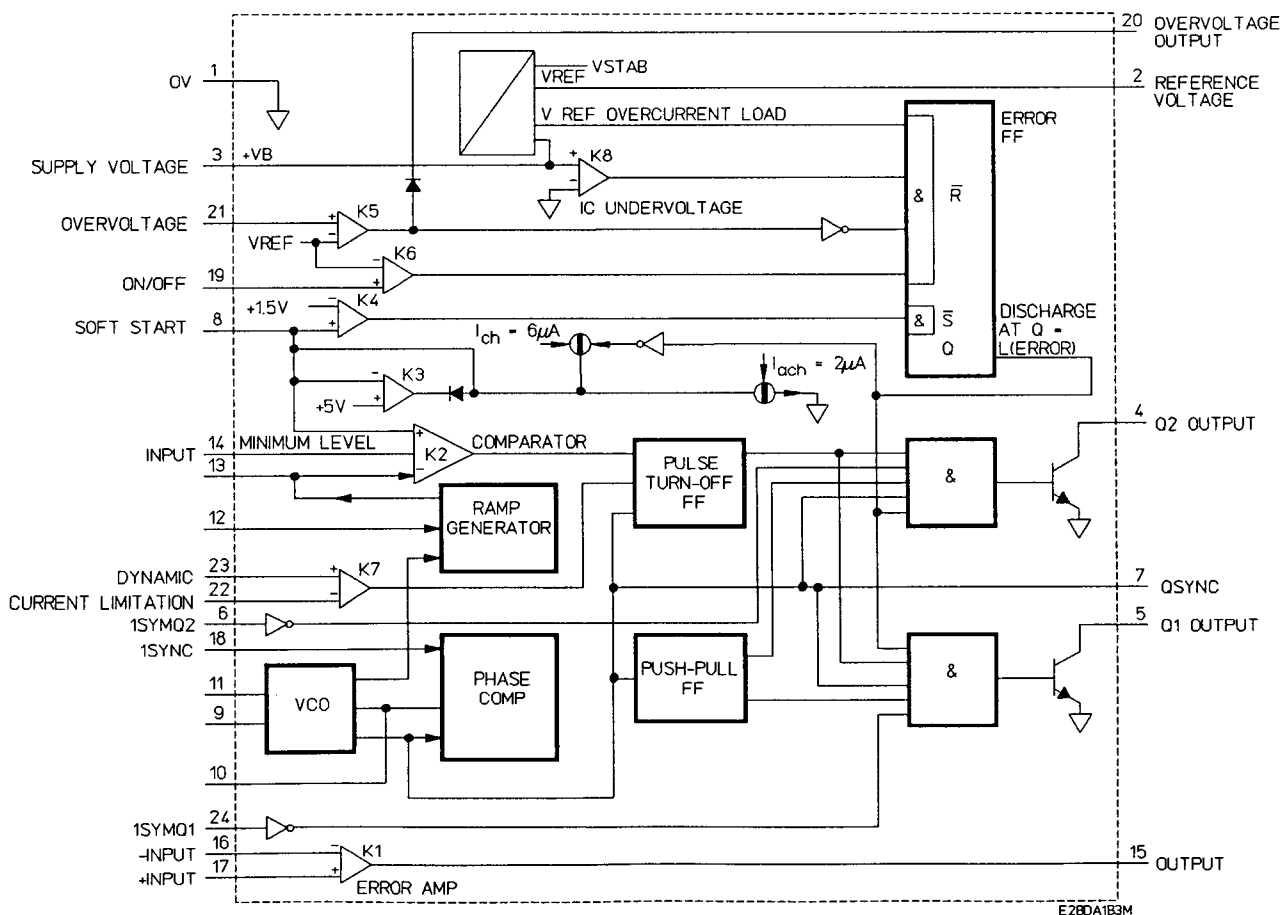

Figure 8-11. Pulse Width Modulator IC (U16)
**Pulse Width Modulator (PWM).** The PWM integrated circuit, shown in *Figure 8-11*, controls the power supply's regulation by varying the pulse width of its outputs, U16(4,5), which drive the Switching FET Driver circuit.